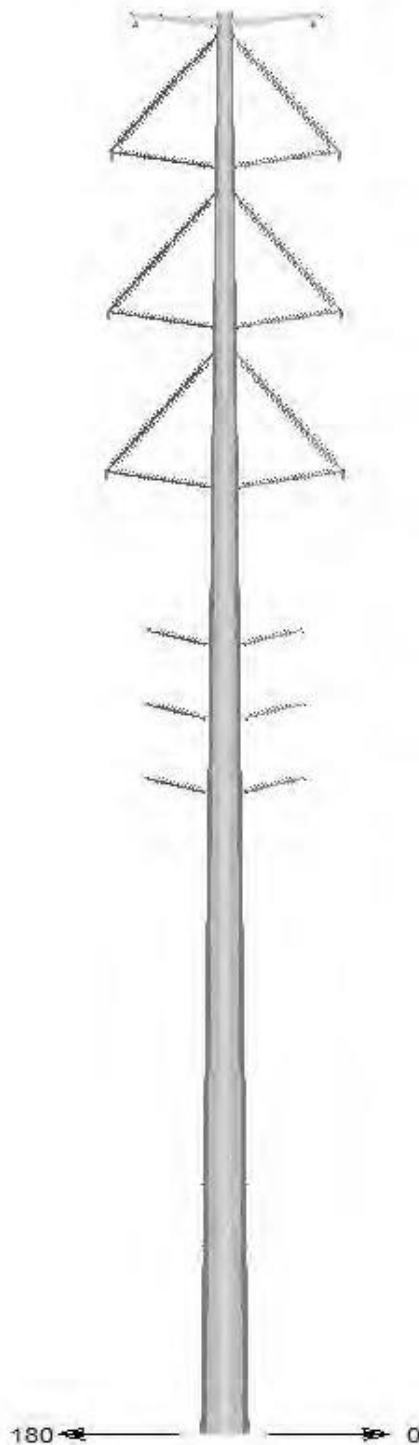

FIGURE G-16
- Figure G-16: Double-Circuit 230 kV Tubular Steel Structure (Pole) with 69 kV Underbuild, Standard Configuration, Strain Structure